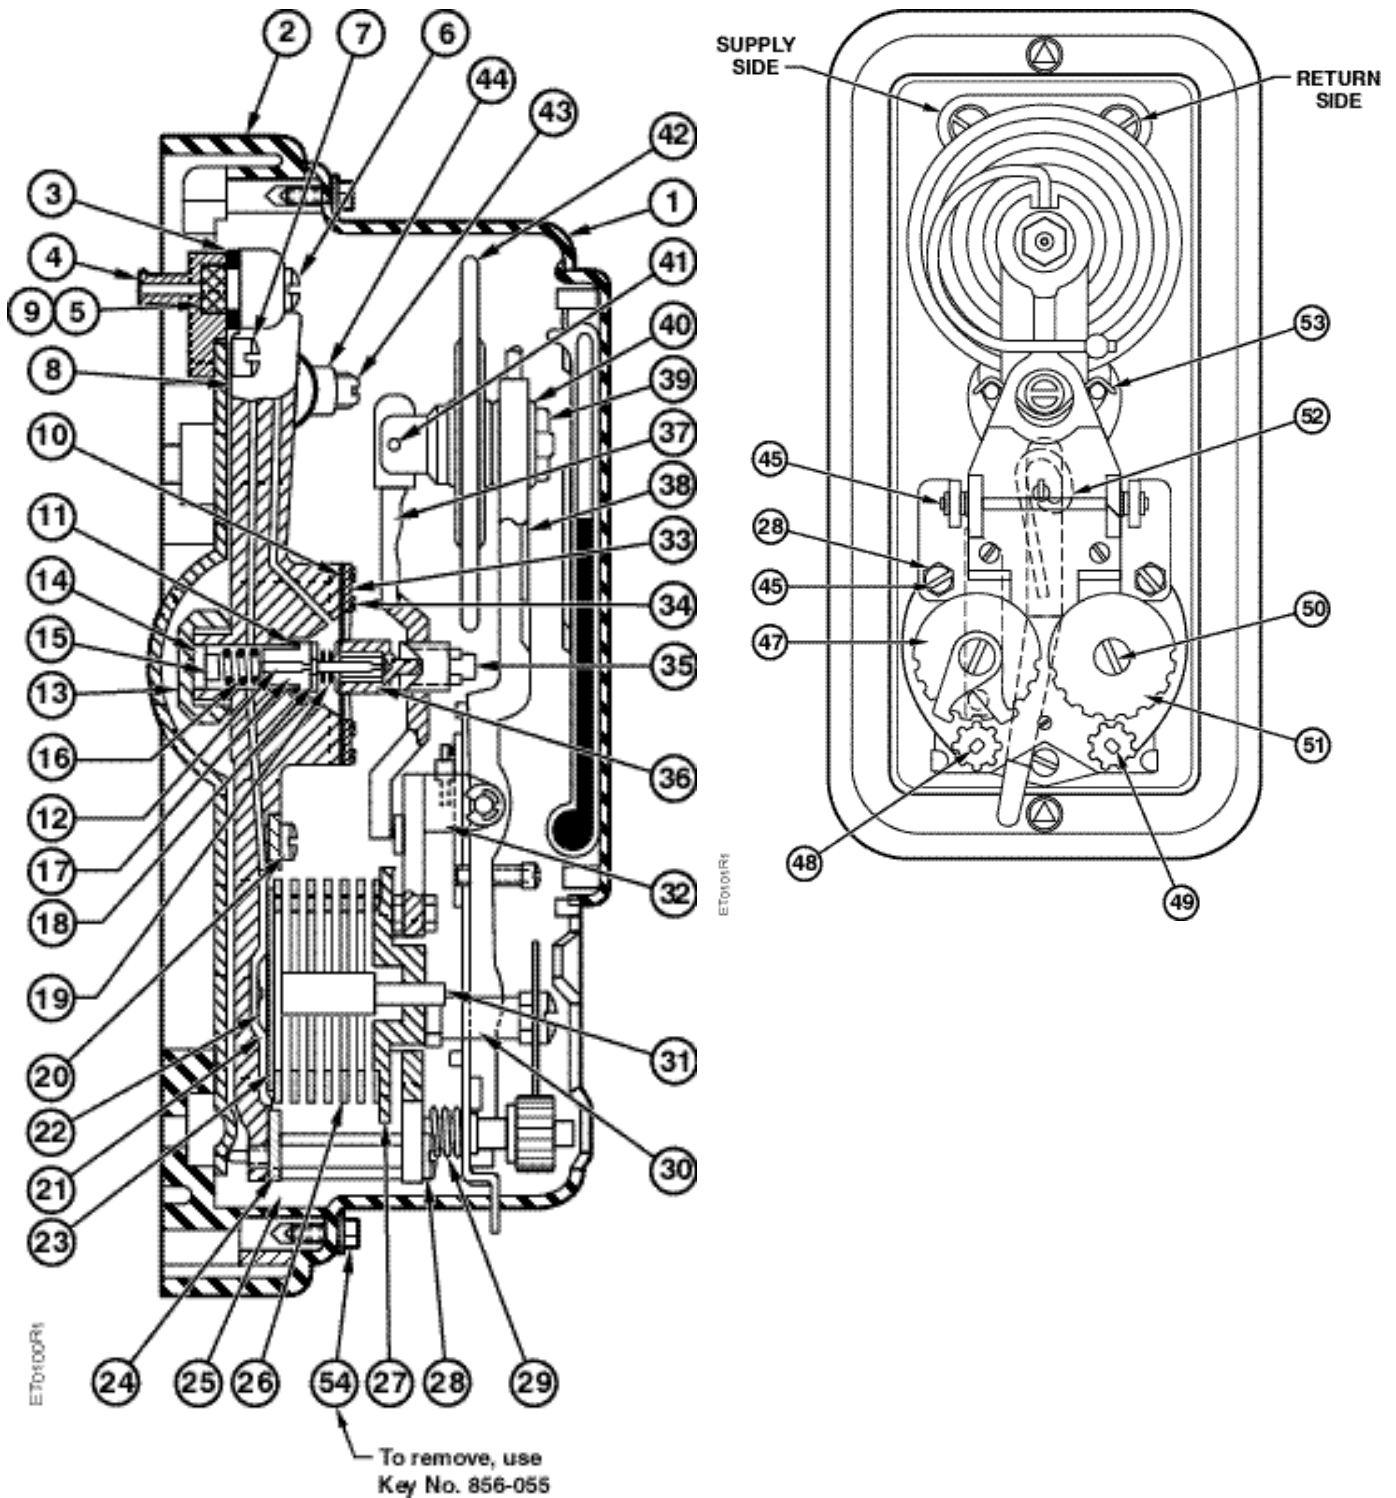

Figure 3.
All references are to the above figures or to *Figure 3*. Pressure gauges should be accurate to the nearest 1/2 psi (3.4 kPa); the thermometer to the nearest 1/2°F (0.3°C). These instructions to be used only when adequate testing facilities exist.
See Figure 3
**Parts Lists (See Figure 3)**